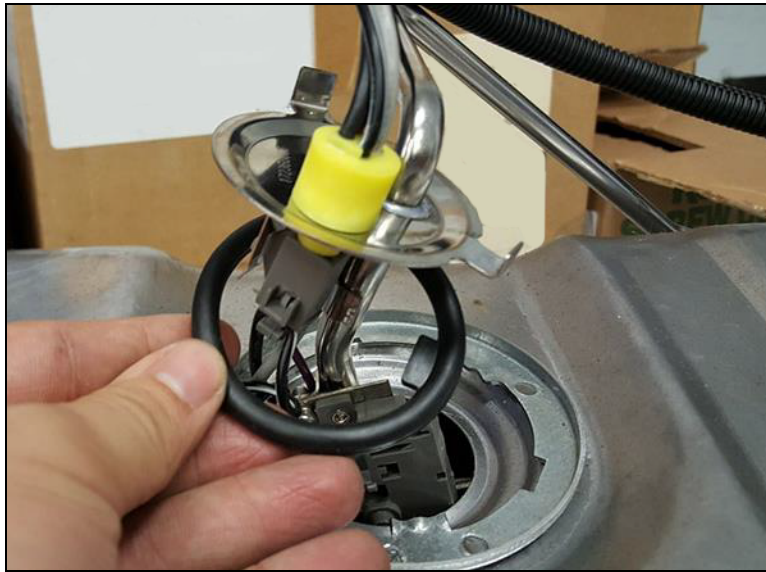

Figure 7
4. Run the supplied O-ring gasket over the supply tube and wires and stretch around the bulkhead plate (**Figure 7**).